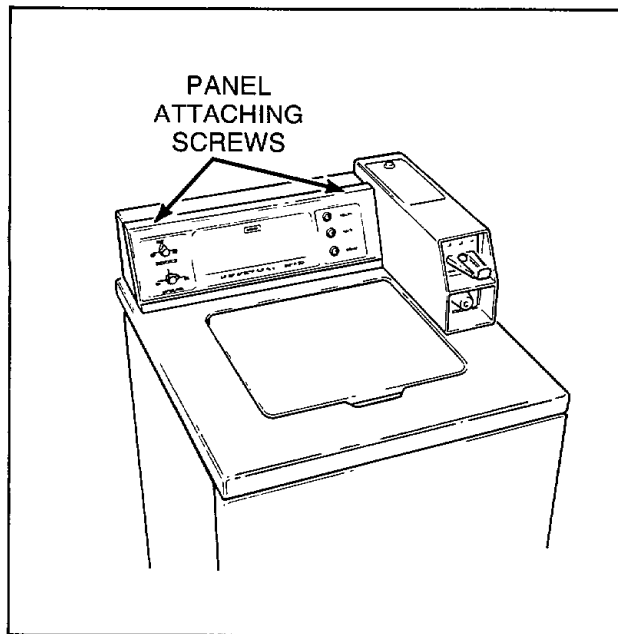

Figure 1
### 1. CONTROL PANEL (Refer to Figure 1)
- c. Remove two control panel attaching screws, *Figure 1*, and lift assembly off panel support.